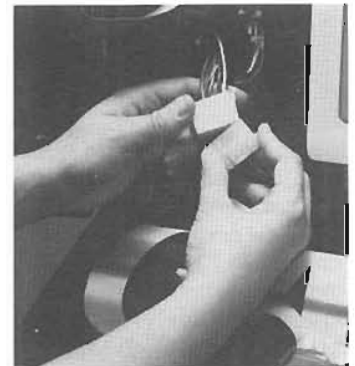

Figure 4: Harness Connection
- Feed the coin door harness connector up through the large hole to the left of the monitor. Attach it to the matching main harness connector as shown in Figure 4.